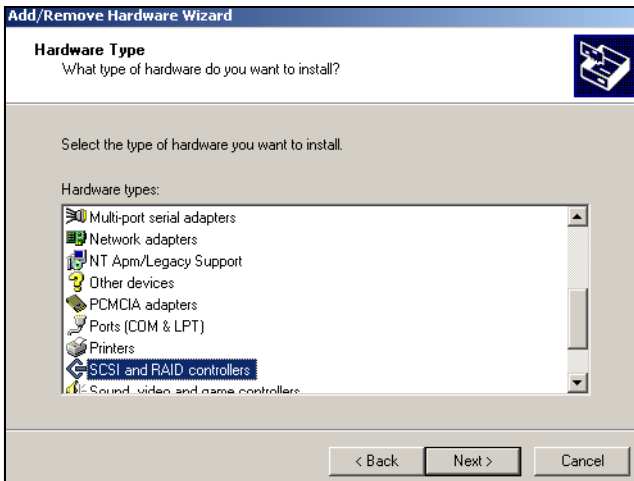

Figure 7-23 The Hardware Type window.
19. Highlight **SCSI and RAID controllers** from the list and click **Next** (Figure 7-23).